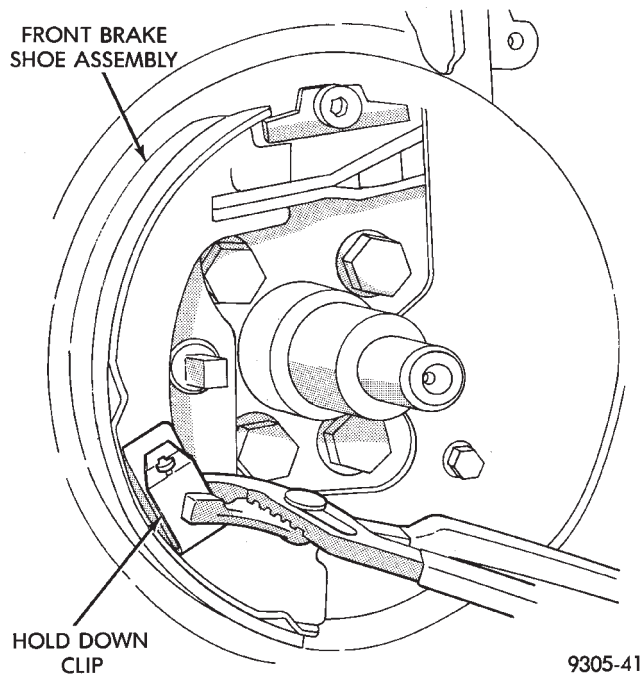

Fig. 5 Removing Front Holddown Clip And Shoe
- (11) Remove front parking brake shoe hold-down clip. Then remove front parking brake shoe assembly (Fig. 5).
- (1) Install front parking brake shoe and hold-down clip (Fig. 5).